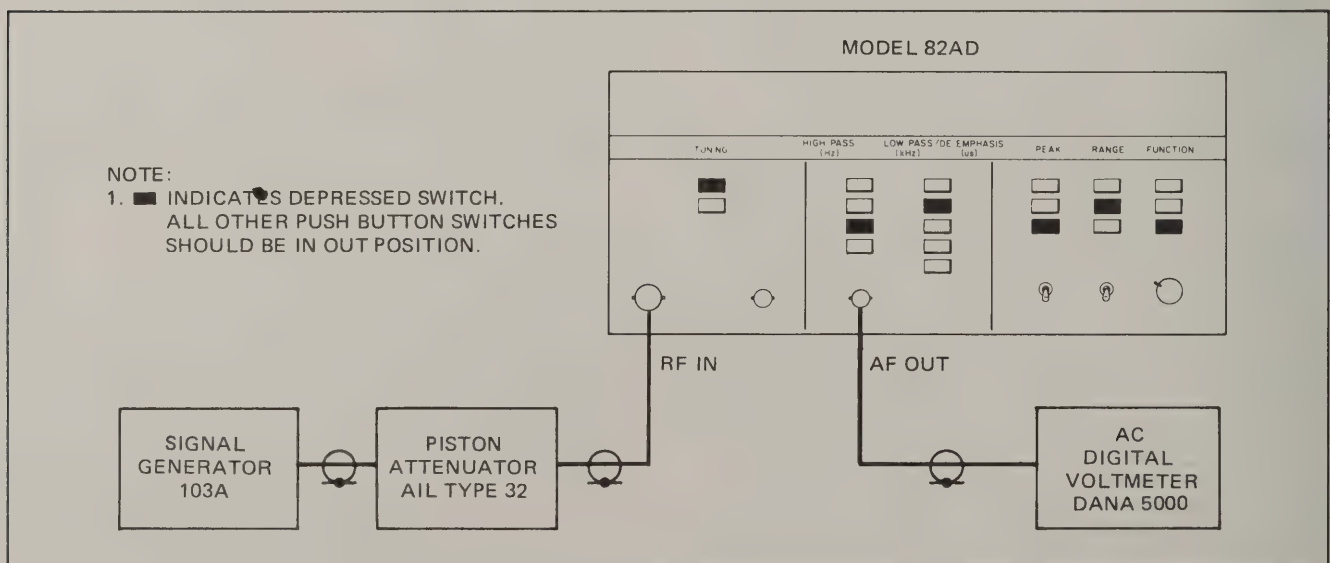

Figure 2-18 AM Audio Distortion Check, Test Setup
a. Connect the Model 82AD and test equipment as shown in Figure 2-18.
c. Depress the Model 82AD switches indicated in Figure 2-18.